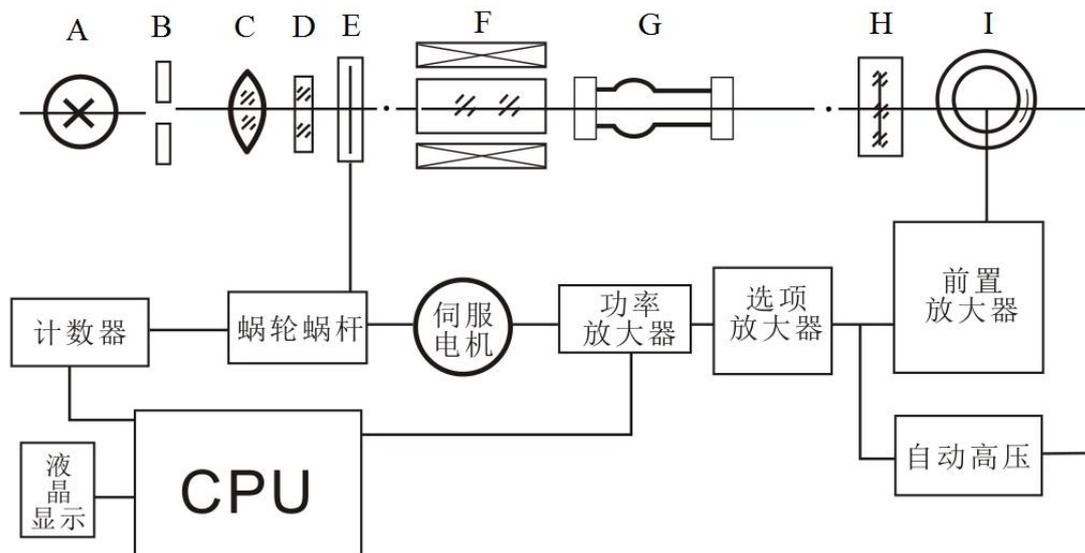

Figure 1
Adopting 20W sodium-vapor lamp as optical source, the small diaphragm and objective lens form a simple pointolite collimator (Figure 1), and the collimated light is turned into plane-polarized light through polarizer (E) with 00 indication on plane of oscillation (Figure 2a). When the polarized light goes through the magnetic rotation coil with Faraday effect, its plane of oscillation generates 50Hz  $\beta$ -angle swinging back and forth (Figure 2b), and the light is projected into photomultiplier via polarizer (H) to